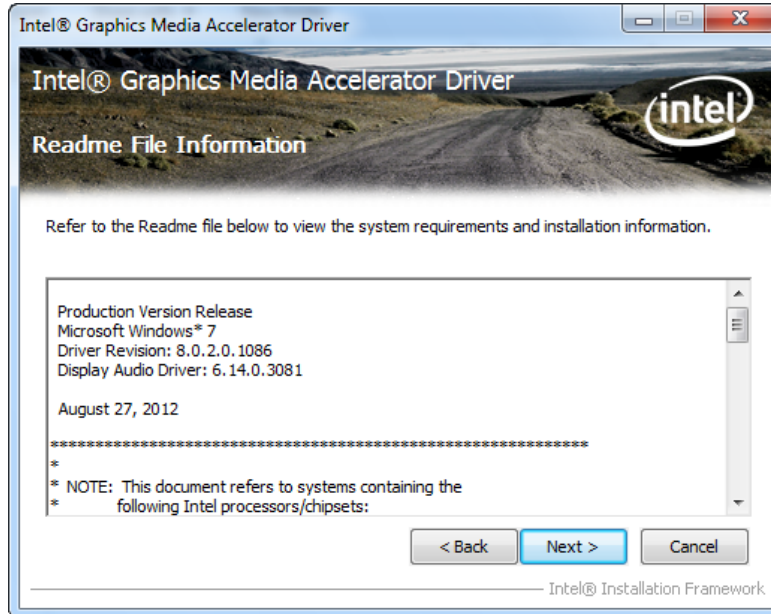

Figure 8-9: Graphics Driver Read Me File
Step 8: The **Read Me** file in **Figure 8-9** appears.